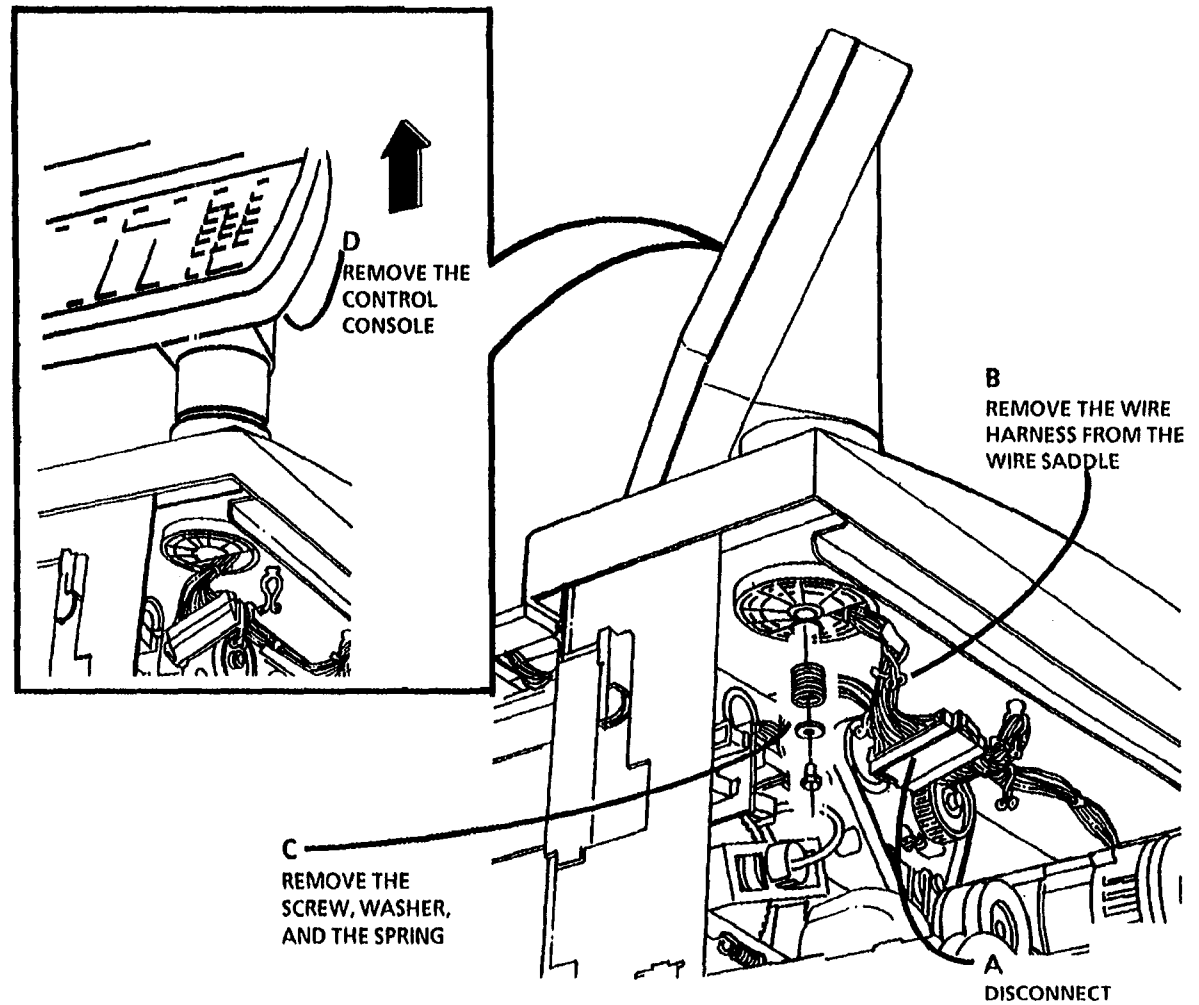

Figure 2. Remove the Control Console
9. (Figure 2): Remove the Control Console.